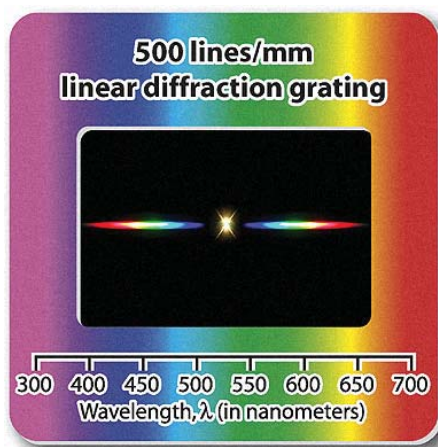
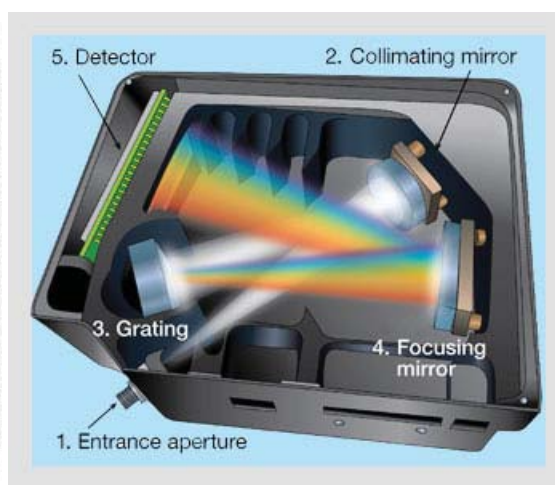

Figure 8.6: The diffraction grating.
Figure 8.7: Schematic of how a digital spectrometer works.
Like a prism, a **diffraction grating**³ spreads out incoming light into a spectrum. Instead of using dispersion to spread out the light, a diffraction grating bends smaller wavelengths more than it bends larger wavelengths. A picture of the diffraction grating you will be using is shown in Fig. 8.6. The digital spectrometer you will be using also uses a diffraction grating, instead of a prism, to spread out the light. A schematic of how a digital spectrometer works is shown in Fig. 8.7.
- Diffraction grating (see Fig. 8.6)